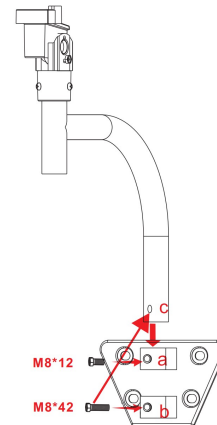

Figure 7
*Can also be mounted Upward. (Figure 7)